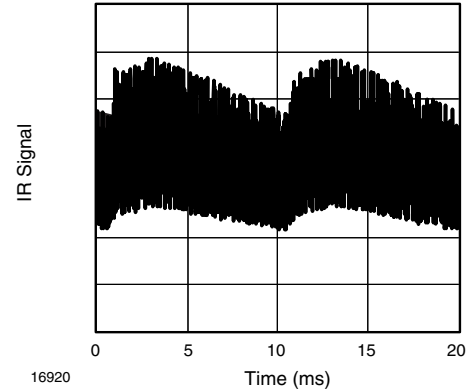
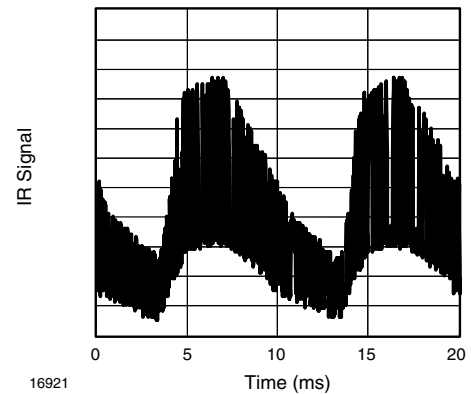

Fig. 13 - IR Disturbance from Fluorescent Lamp with Low Modulation
Fig. 14 - IR Disturbance from Fluorescent Lamp with High Modulation
- Strongly or weakly modulated patterns from fluorescent lamps with electronic ballasts (see Fig. 13 or Fig. 14)
| Suppression of interference from fluorescent lamps | Mild disturbance patterns are suppressed (example: signal pattern of Fig. 13) | Complex disturbance patterns are suppressed (example: signal pattern of Fig. 14) | Critical disturbance patterns are suppressed, e.g. highly dimmed LCDs |